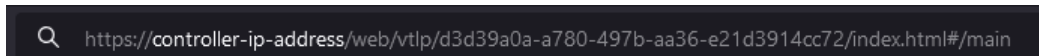

Figure 4. Copy vTLP URL
5. Copy the complete URL from the browser window (see figure 4).